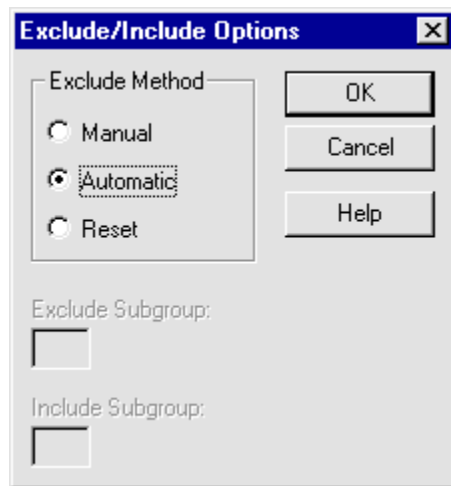

Figure 1-5. Completed Options Dialog Box
4. Click the Automatic option; your screen should look like the one shown in Figure 1-5.